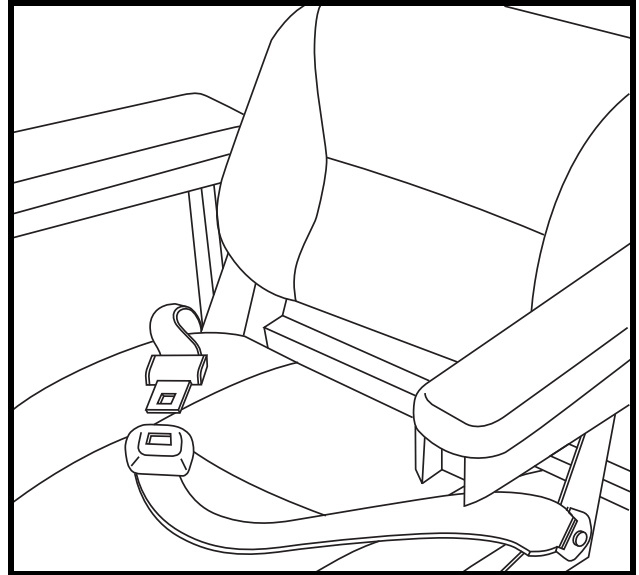

Figure 23. Positioning Belt
1. Insert the metal tab on the right side of the belt into the plastic housing on the opposite strap until you hear a “click.” **See figure 23.**